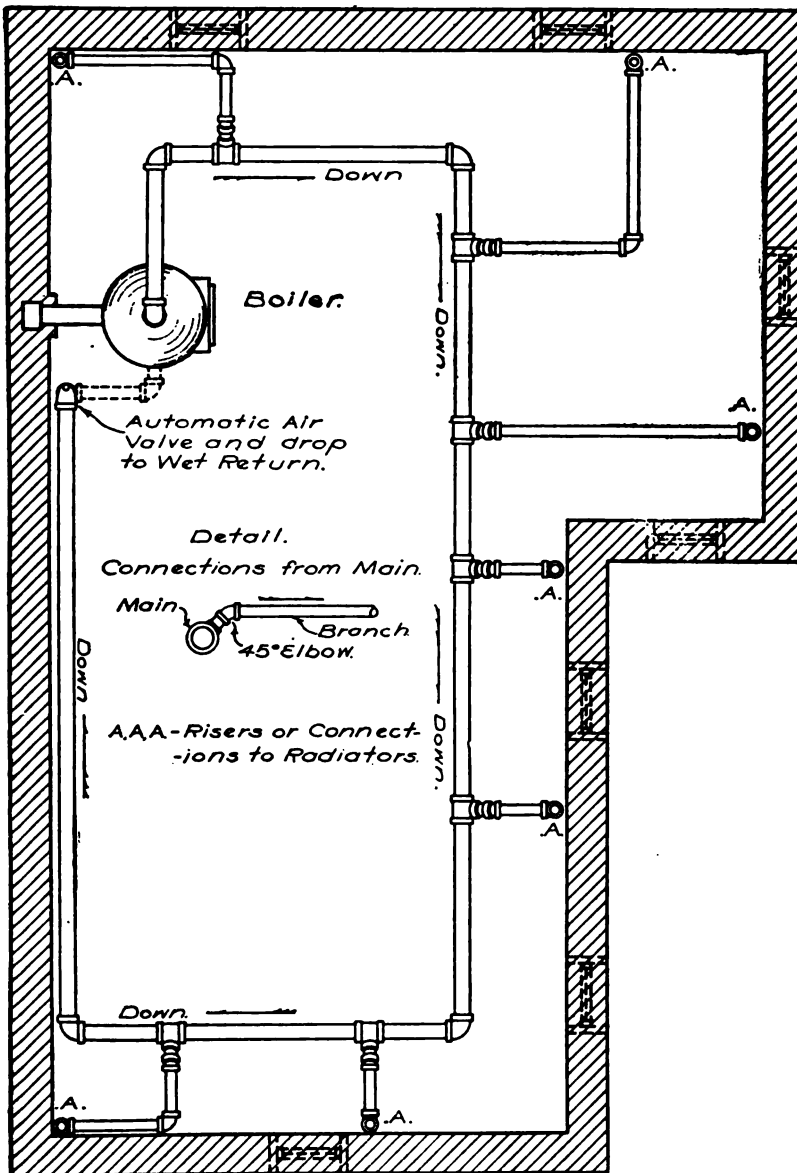

Fig. 22.—The One-Pipe Circuit System of Steam Heating.
A. A circuit system is one on which a single steam main rises from the boiler to as high a point as convenient and then makes a circuit of the basement supplying the various radiators by branches taken from the main pipe as occasion requires. As a rule this main terminates at a point near the boiler and an automatic air valve is placed on the end and a drop made with a smaller pipe into a return opening of the boiler. Fig. 22.